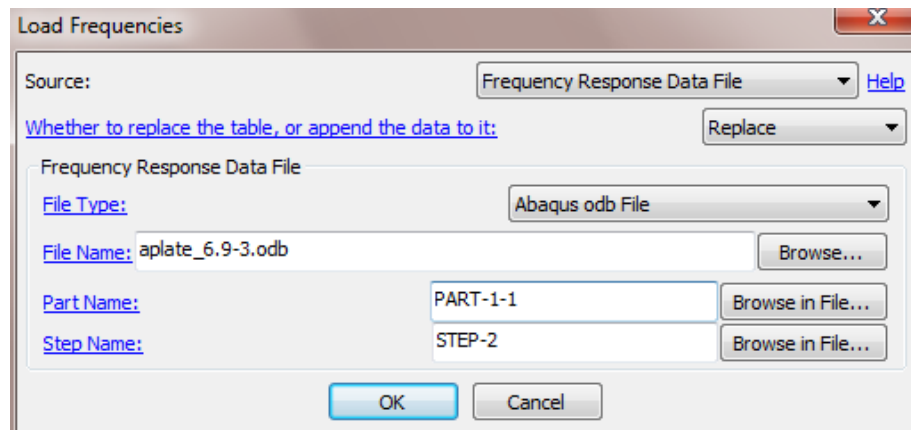

Figure 7.19 Load frequencies from frequency response data file.
7.2.2.3. Frequency Response Data File Analysis frequencies could be extracted from a frequency response data file using this option (Figure 7.19). Select appropriate parameters described below and press